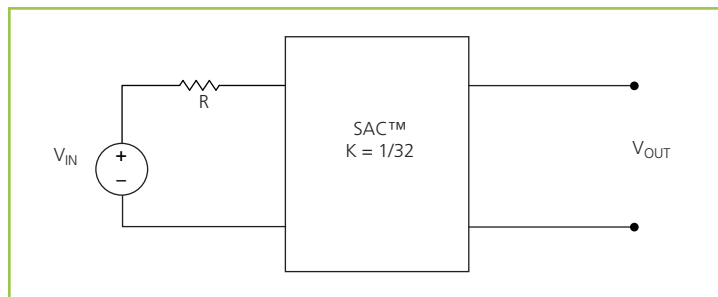

Figure 18 – K = 1/32 Sine Amplitude Converter with series input resistor
The use of DC voltage transformation provides additional interesting attributes. Assuming that R_{OUT} = 0 Ω and I_Q = 0 A, Eq. (3) now becomes Eq. (1) and is essentially load independent, resistor R is now placed in series with V_{IN} as shown in Figure 18.
Assuming that $R = 1 \Omega$, the effective R as seen from the secondary side is $1 \text{ m}\Omega$, with $K = 1/32$ as shown in Figure 18.